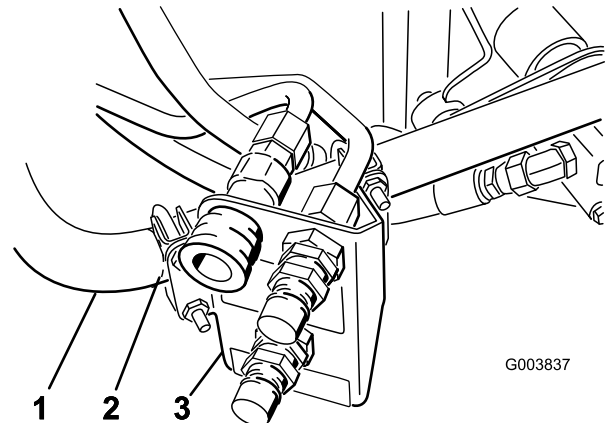

Figure 11
3. Temporarily position the coupler bracket on the round frame tube; refer to Figure 11.